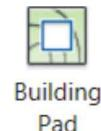

FIGURE 14-1.11 3D view showing new ground surface
18. Switch to the **3D** view to see your new ground surface (Figure 14-1.11). **TIP:** Type **VV** and turn on the *Roof* category if needed.